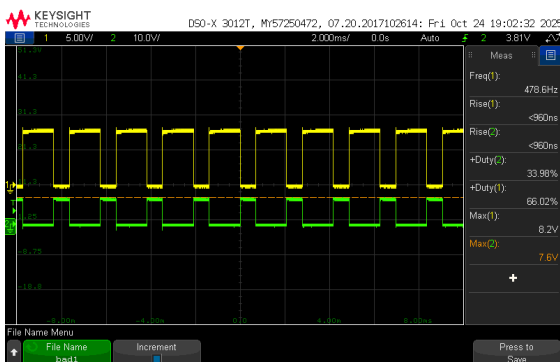

Figure 10: Bad Layout trigger to 5 v rail of timer
2.1 In the bad layout (Figure 10), the timer output operates at 482.1 Hz with a rise time < 960 ns, fall time < 960 ns, and a duty cycle of 34.31 %, while the 5 V rail shows larger ripple up to 8.7 V_{p-p} due to poor decoupling and ground return.